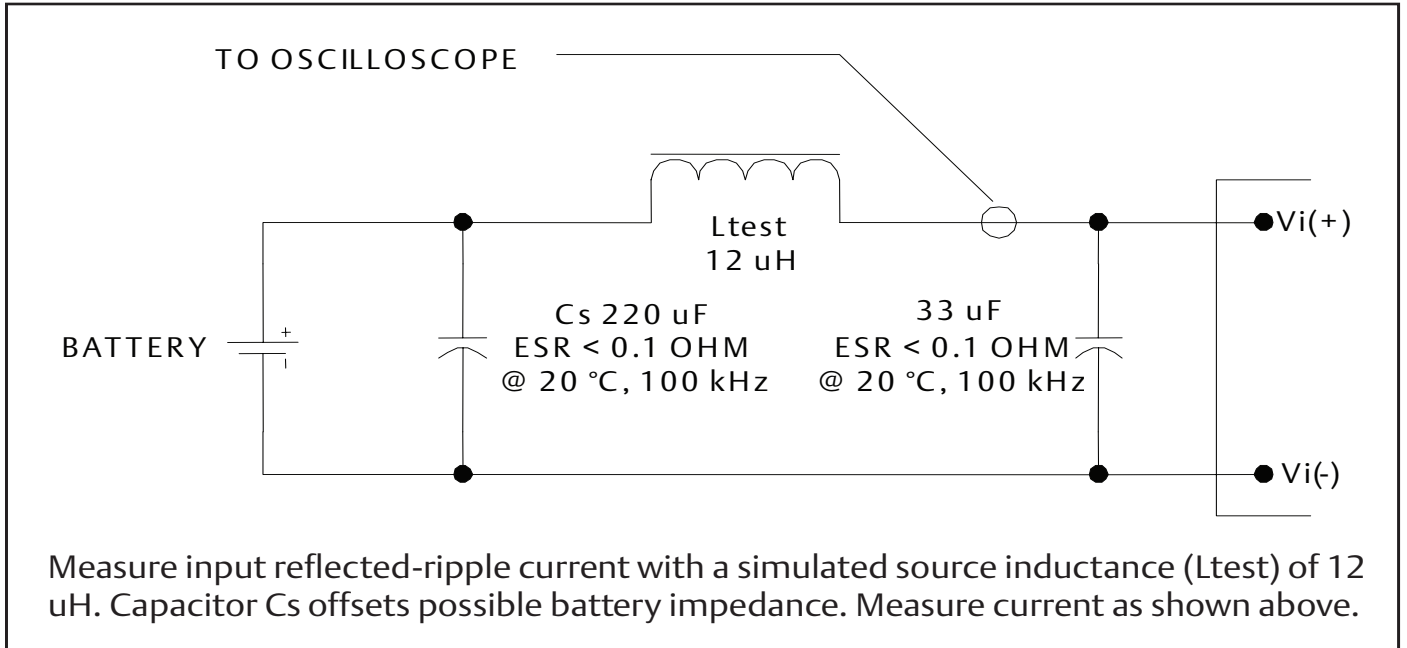

Figure 1. Input Reflected Ripple Current Measurement Setup
2. See Figure 1 for the input ripple current test setup.